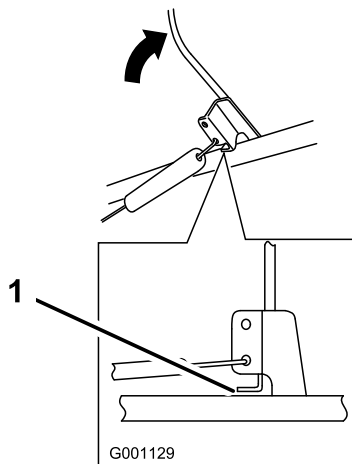

Figure 19
2. Ensure that a 1/16 to 1/8 inch (2 to 3 mm) gap exists between the control bar and the handle (Figure 19). To adjust the cable, refer to Adjusting the Cable below.